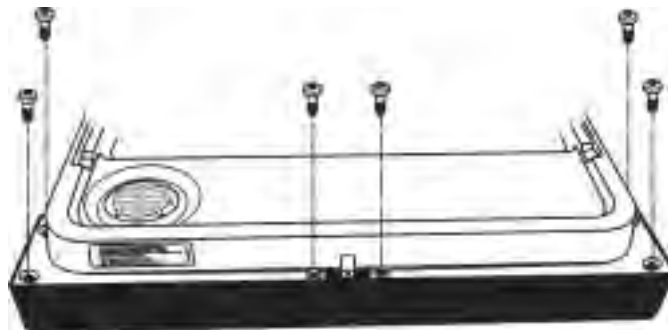

Fig. 3-1
1. Remove the six (6) screws securing the control panel to the door frame. (*Fig. 3-1*)